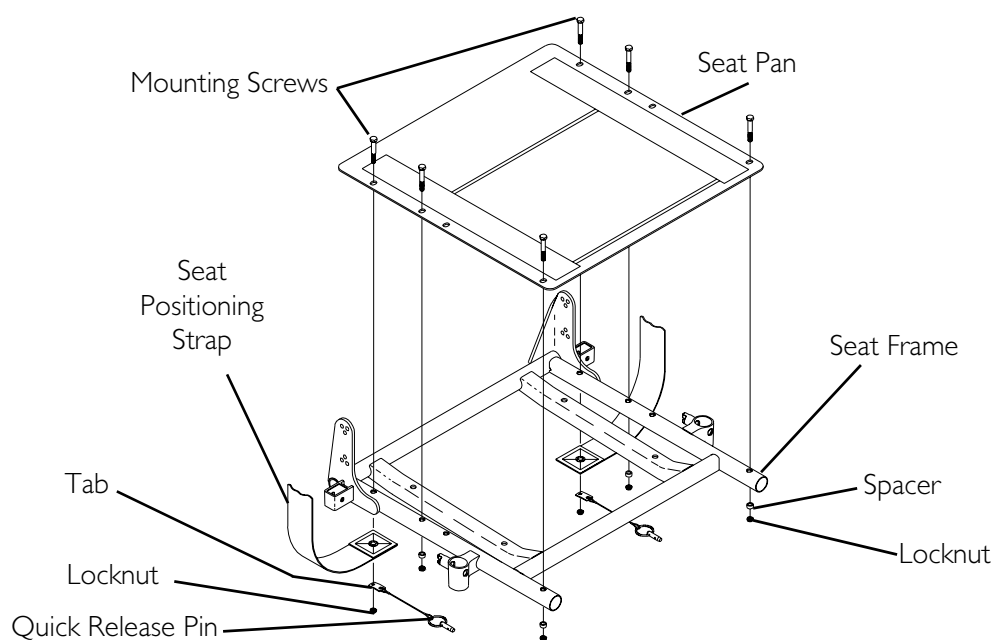

FIGURE 7.4 Removing/Installing the Seat Pan
NOTE: For this procedure, refer to FIGURE 7.4 on page 64.
3. Remove the four mounting screws, locknuts and four spacers securing the seat pan to the seat frame (FIGURE 7.4).